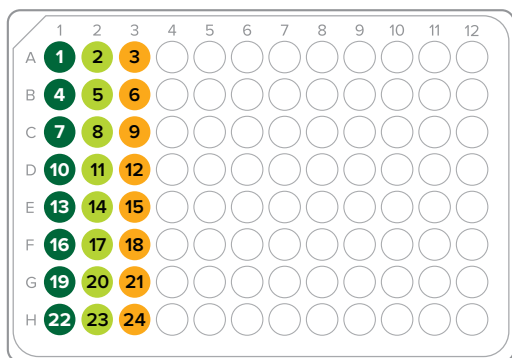

Figure 2. Layout of 10X Assay Pools
- In a DNA-free hood, combine the following components in wells of a new PCR plate or in 8-well strips according to the layout shown (see Figure 2):